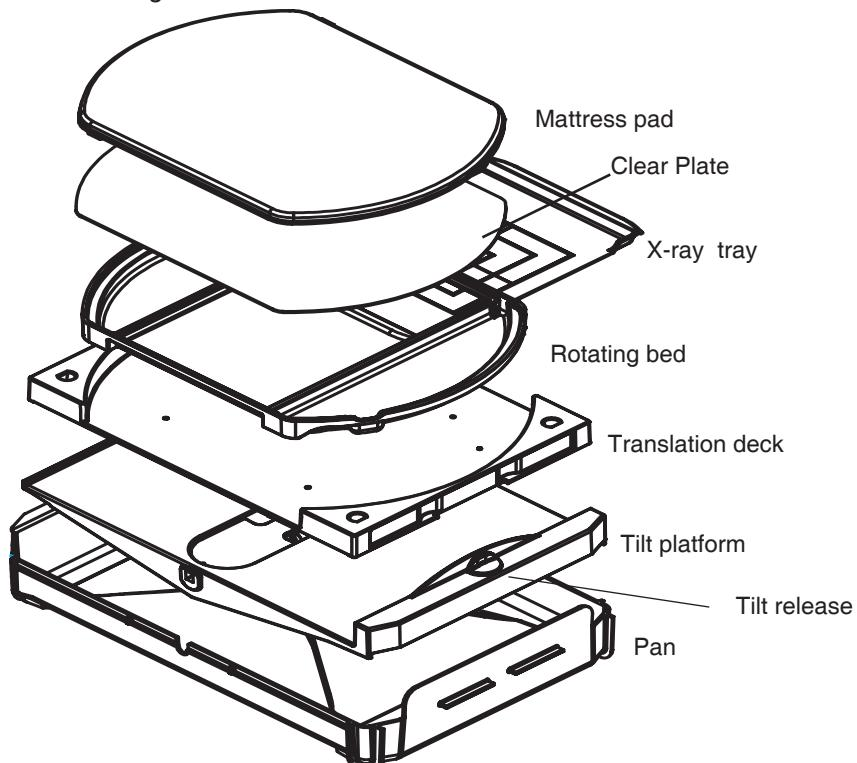

Figure 5-4
5.4.4 Elevating Base (Figures 5-4 and 5-7)
5.4.5 Chassis Replacement (Figure 5-4, 5-5, 5-6, 5-8, and 6-11)